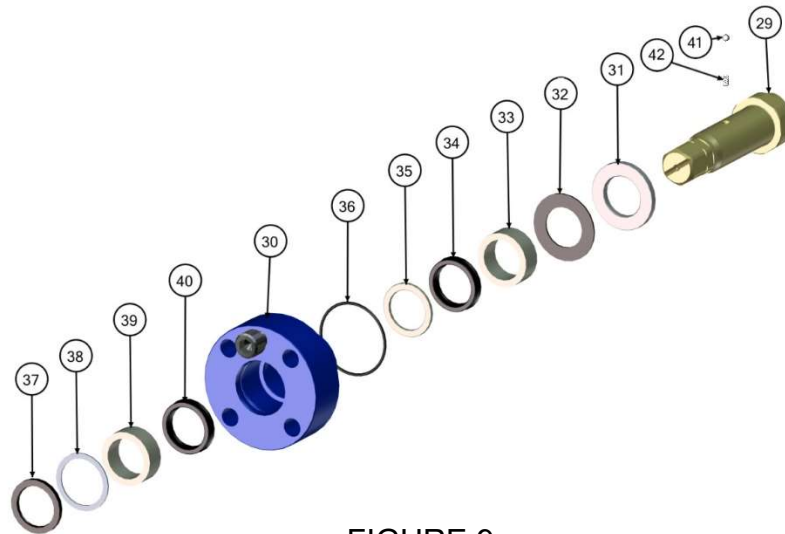

FIGURE 9
NOTE: When removing the stem from the stuffing box, care must be taken to ensure that the antistatic ball (41) and spring (42) (**FIGURE 9**) are not misplaced. It is critical that these components are reassembled with the stem and stuffing box to maintain compliance with API 6D.
- 6) Remove the items from the stuffing box assembly in the following order as shown in **FIGURE 9**: stem (29), antistatic ball (41), and spring (42), thrust ring (31), thrust bearing (32), bearing ring (33), polypak (34), back-up ring (35), and the o-ring (36).
- 7) From the other end remove the weather seal (37), retaining ring (38), bearing ring (39), and polypak (40).